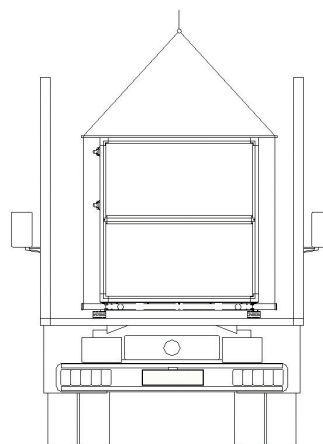

Figure 4
- When loading or unloading with a crane always use the lifting tubes as shown in Figure 4.